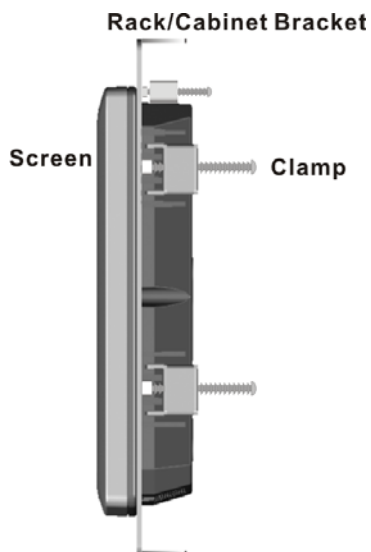

Figure 2-16: Secure the Rack/Cabinet Bracket
- Step 3:** Tighten the screws that pass through the rack mounting clamps until the plastic caps at the front of all the screws are firmly secured to the bracket (**Figure 2-16**).